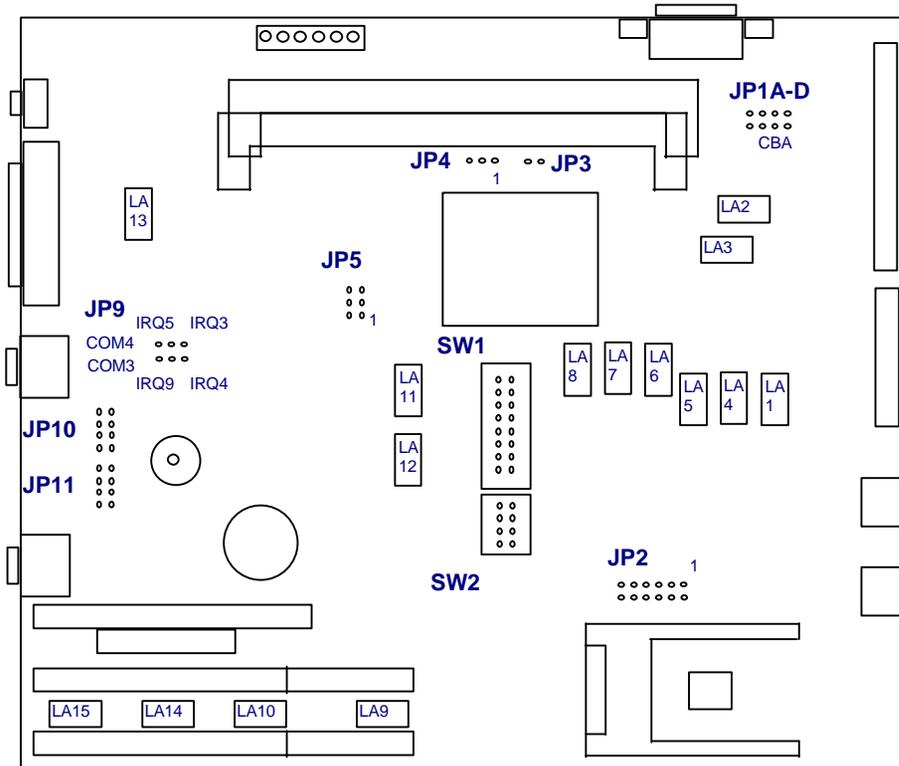

Figure 2-2. Jumpers.
1. Inspect the board, noting the location of the connectors, jumpers, and major components. Refer to Figures 2-2 and 2-3.